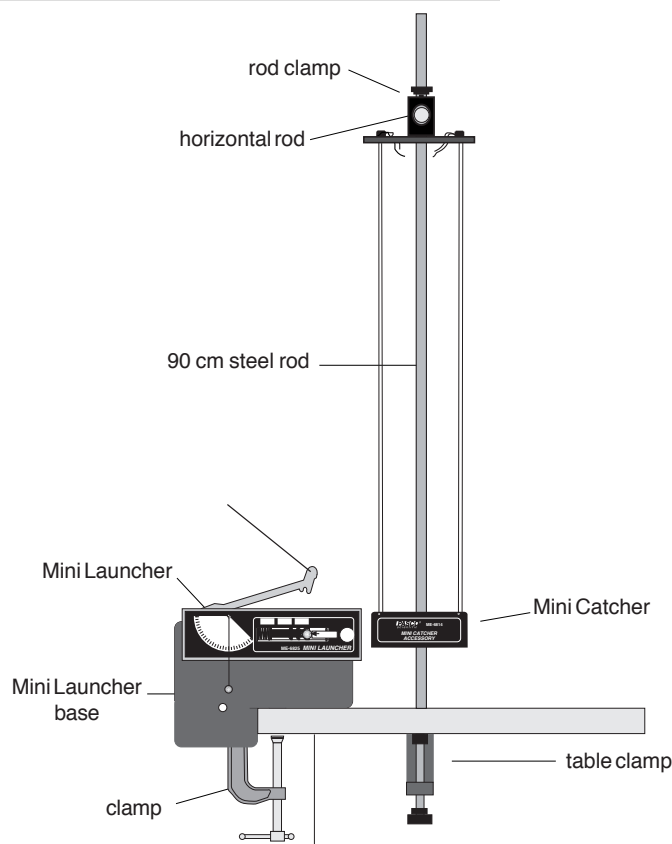

Figure 1.4. Setup for Part II
- ① Find the masses of the ball and the catcher and record in Table 1.3.
- ② Suspend the ball catcher as a pendulum as explained in the general instructions.
- ③ With the Mini Launcher mounted as in Figure 1.4, clamp the suspended ball catcher directly in front of the muzzle.
- ④ Attach a thread to the ball catcher and string it through the Velcro assembly (see the general instructions) on the base of the Mini Launcher.